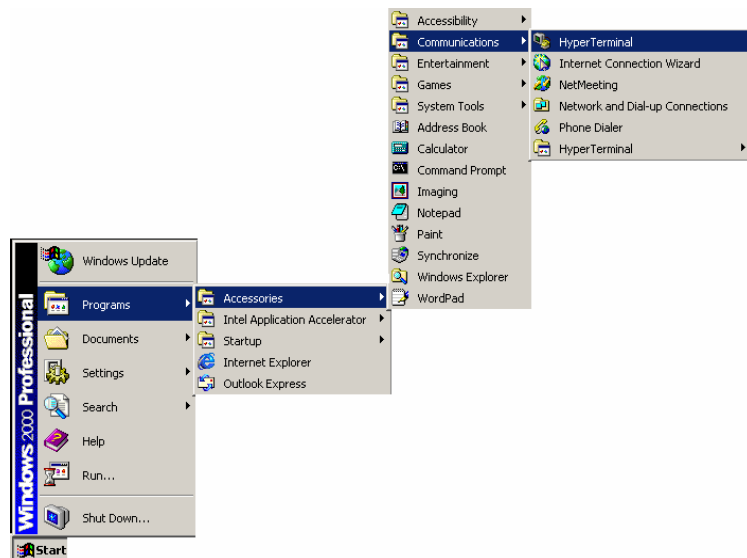

Figure 6. Start Hyper Terminal function
Step 1. Click *Start* *Accessories* *Communications* *Hyper Terminal* (Figure 6), and then the *Connection Description* screen will be shown as Figure 7.